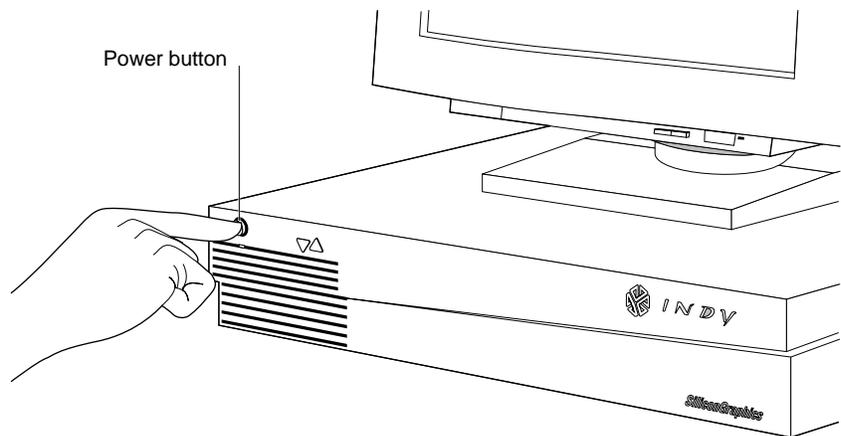

Figure 2-14 Turning on the Indy Workstation
1. Press and release the power button on the front of your Indy workstation, as shown in Figure 2-14.